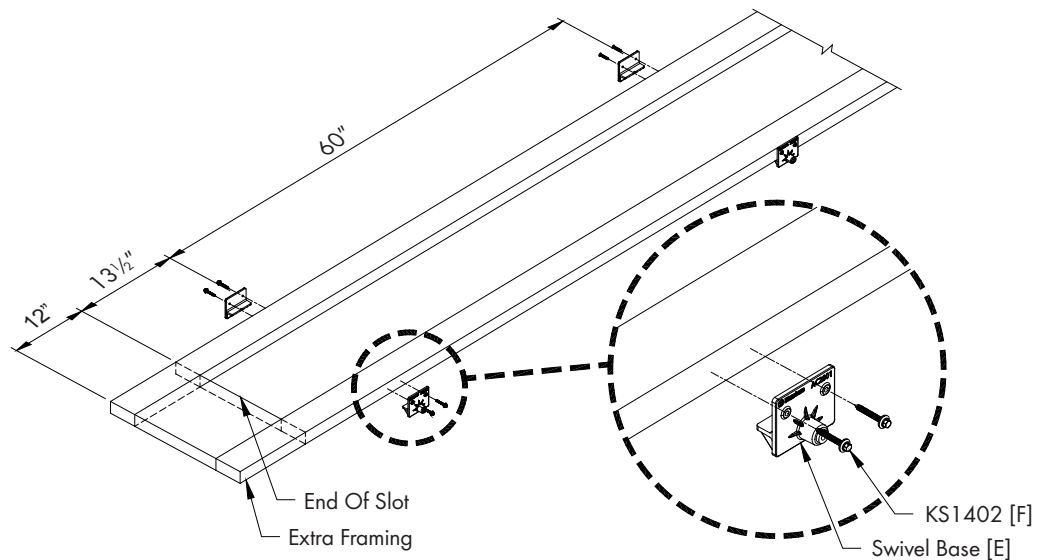

Figure 6
Attach a Square Swivel Base [E] to each side of the framing starting 13 1/2" from the end of the slot using (2) KS1402 Screws [F] and then every 60" O.C., do not install the last pair of Swivel Bases to the farming at this time. See Figure 6.